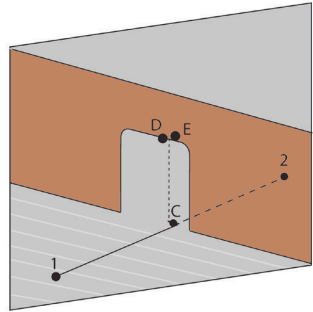

Figure 18
6. If the distance D to E  $< 1/16''$  for a 10' doorway, your plumb accuracy is within specification. (Figure 18)